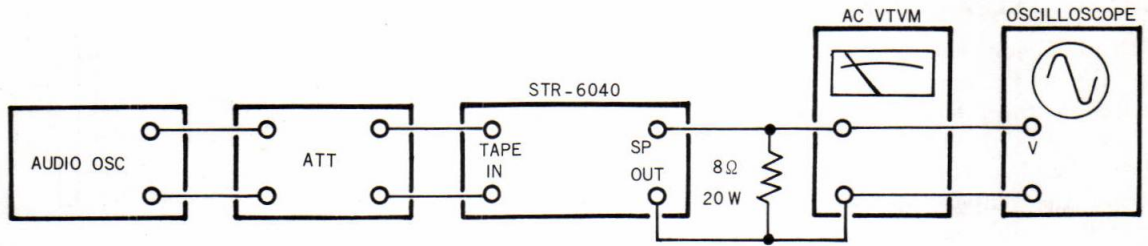

Fig. 4-6 Ac balance adjustment test set-up
1. With the equipment connected as shown in Fig. 4-6 and the power switch in the ON position, feed a 1 kHz, 0 dB signal to the TAPE IN terminal.